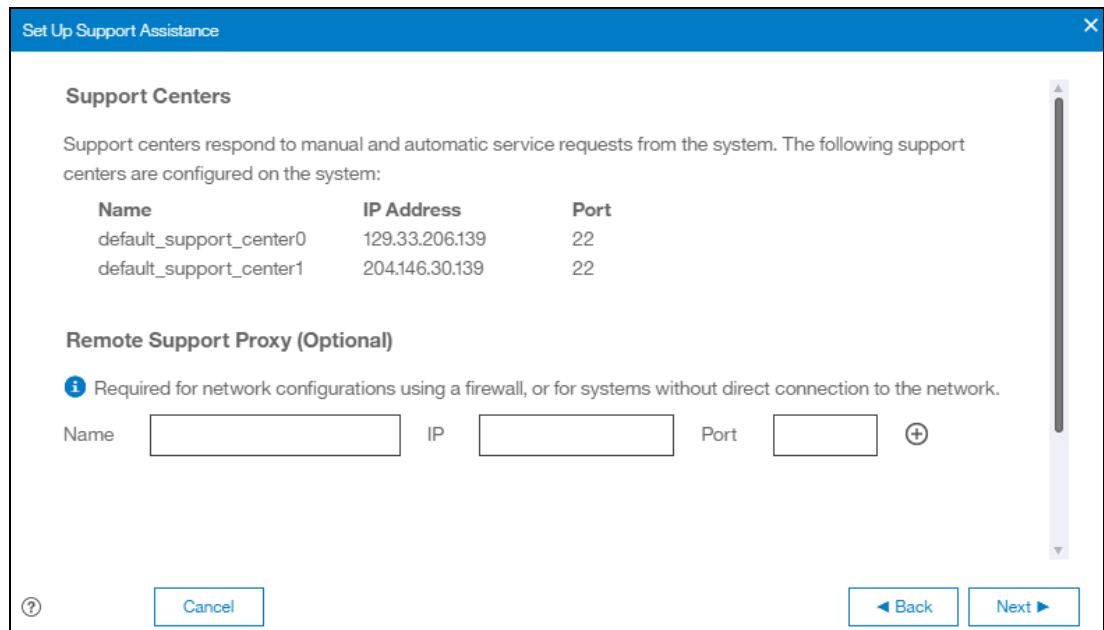

Figure 7-69 Remote Support wizard proxy setup
6. The next window, shown in Figure 7-69, lists the IBM Support center's IP addresses and SSH port that will need to be opened in your firewall. You can also define a Remote Support Assistance Proxy if you have multiple FS9100s or IBM Spectrum Virtualize systems in the data center, allowing for firewall configuration only being required for the Proxy Server rather than for every storage system. Because we do not have a proxy server in our environment, we leave the field blank and then click **Next**.